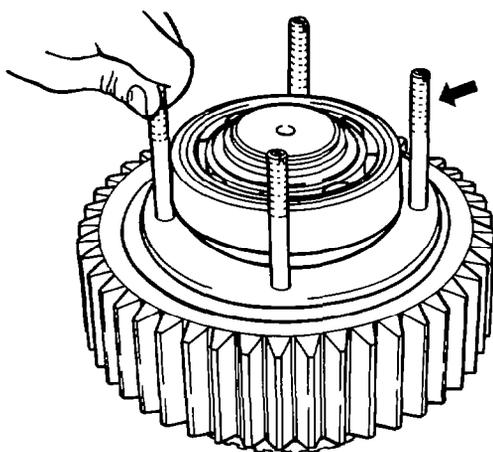

Figure 54 Fitting Special Tool No. 10
- b. Screw Special Tool No. 10 into the bearing ring in the hub gear (see Fig 54); fit the hub drive gear with the special tool to the hub inner casing.